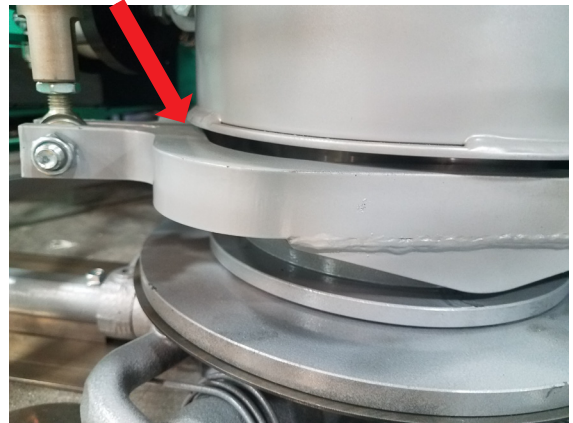

Figure 12. Yoke Clearance
1. With the pitch actuators fully retracted, set the yoke to clear the motor housing by .08 inch (Figure 12). A 14 GA shim should just fit between without binding.